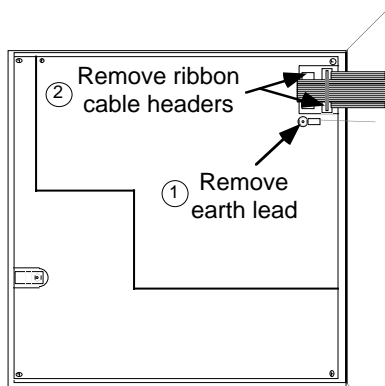

Figure A1.2.1a
- b Remove the earth lead (figure A1.2.1a), retaining the fixings for later re-assembly.
- c Remove the two ribbon cable headers (figure A1.2.1a).